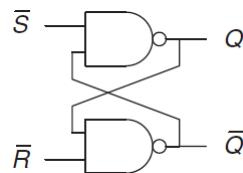

Figure 3.73 Mystery circuit
**Exercise 3.7:** Is the circuit in Figure 3.73 combinational logic or sequential logic? Explain in a simple fashion what the relationship is between the inputs and outputs. What would you call this circuit?